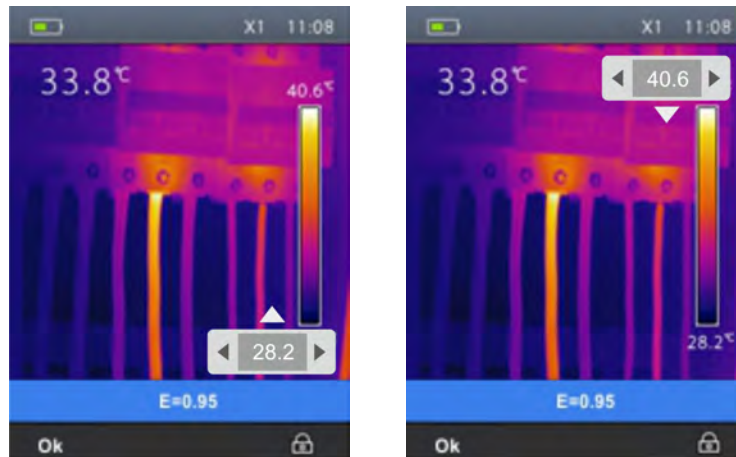

Fig. 28: Setting the adjustment mode of image temperature
2. Press and hold the key for 2 seconds. The following screen (see Fig. 28 – Left side) is shown on the display.
3. Press the key to go to the upper level of the color palette (see Fig. 28 – Right side).